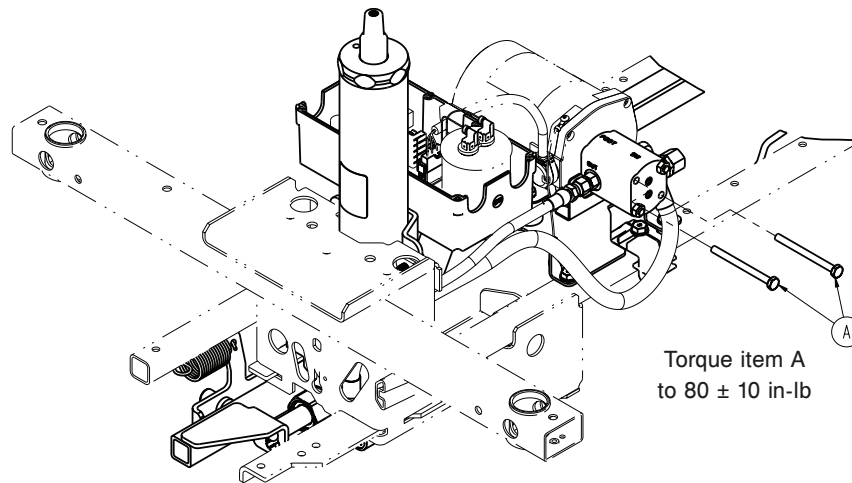

Figure 14 – Screws securing foot end pump to pump motor
3. Using a 7/16" socket with a 3/8" drive 6" extension and a 3/8" drive ratchet, remove the two hex washer head screws (A) that secure the foot end pump to the pump motor (Figure 14). Lower the pump to the floor.